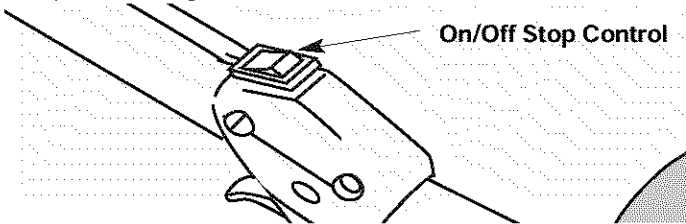

Fig. 7
3. Put the Start/Stop Engine Control in the **START [I]** position.(Fig. 7)
1. Put the Start/Stop Engine Control in the **START [I]** position (Fig. 7).
2. To stop the engine, put the Start/Stop Engine Control in the **STOP [O]** position (Fig. 7).